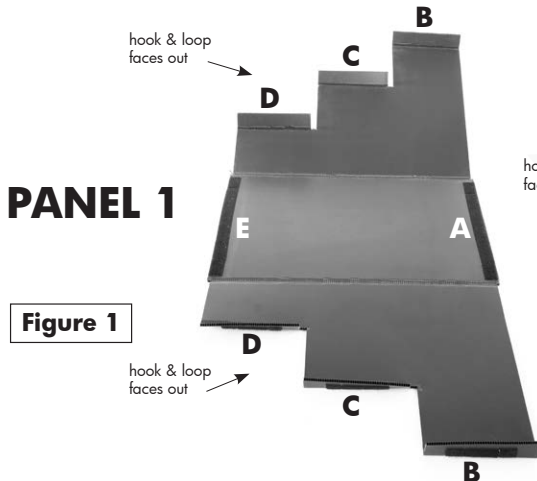

Figure 1
- 1** Unfold and lay both **PANEL 1** and **PANEL 2** onto a floor or table as shown above in **Figures 1 & 2**. **PANEL 1** must be placed so that the sticker labels A and E with the hook and loop material are facing up. Position **PANEL 1** the same way it's shown in **Figure 1** with sticker E on the left.